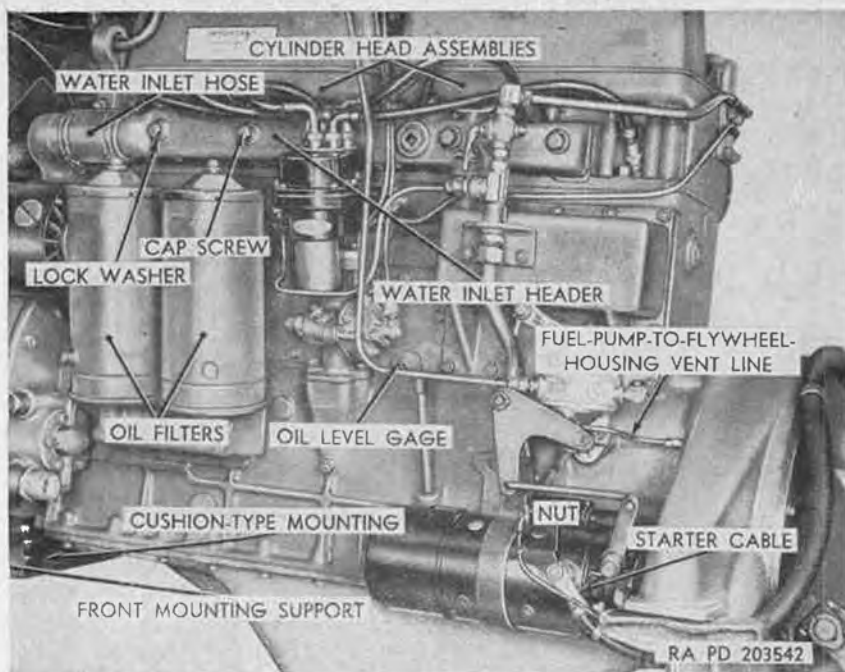

Figure 117. View of left rear section of engine.
- (2) *Engine mountings.* The front of the engine is bolted at each side with cushion-type mountings (fig. 117) to the front mounting support, which is bolted to the frame No. 1 cross member. The flywheel housing at the rear of the engine is bolted to cushion-type mountings (fig. 118) attached to the frame left and right side rails.
- (5) *Oil filters.* Two replaceable-element oil filters (fig. 117) are mounted on the left side of the engine. When the engine is running, a portion of the engine oil is continuously passed through the filtering elements and returned to the crankcase.